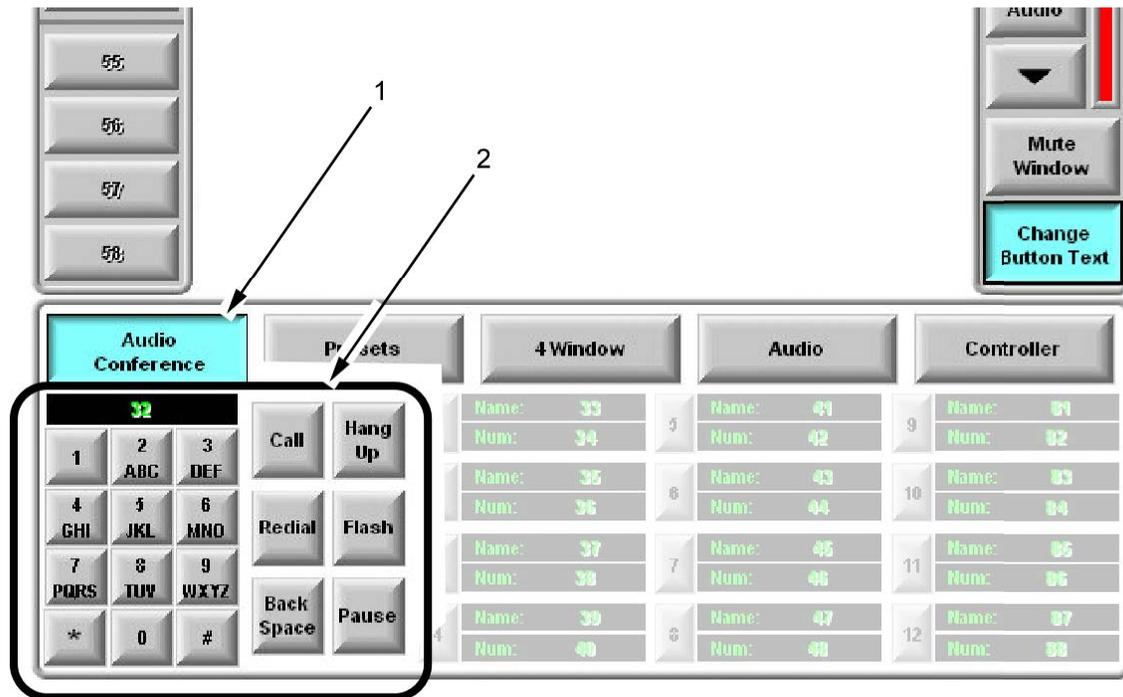

Figure 11. Audio Conference Function Panel.
1. Press and hold the **Audio Conference** button (Figure 11, Item 1) to access the Audio Conference panel and the necessary controls to run the audio conference.